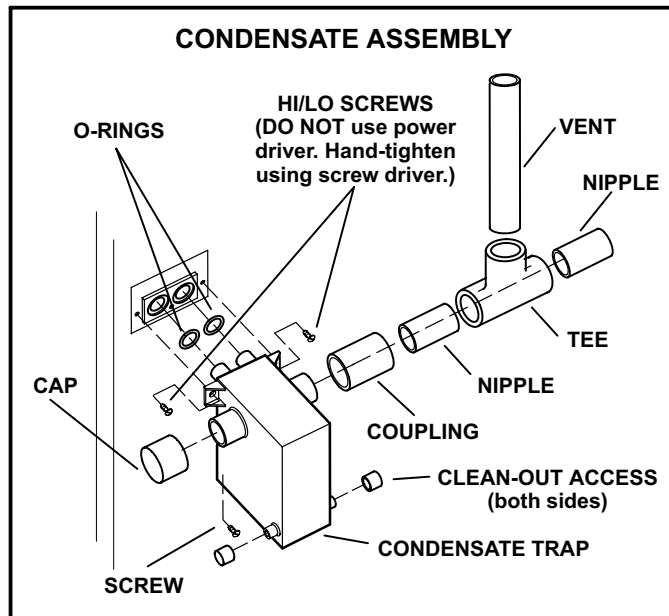

FIGURE 42
- 2 - Install condensate trap onto the condensate collar. Use provided HI/LO screws to secure two upper flanges of the trap to the collar. Use provided sheet metal screw to secure bottom trap flange to side of unit. See figure 42.